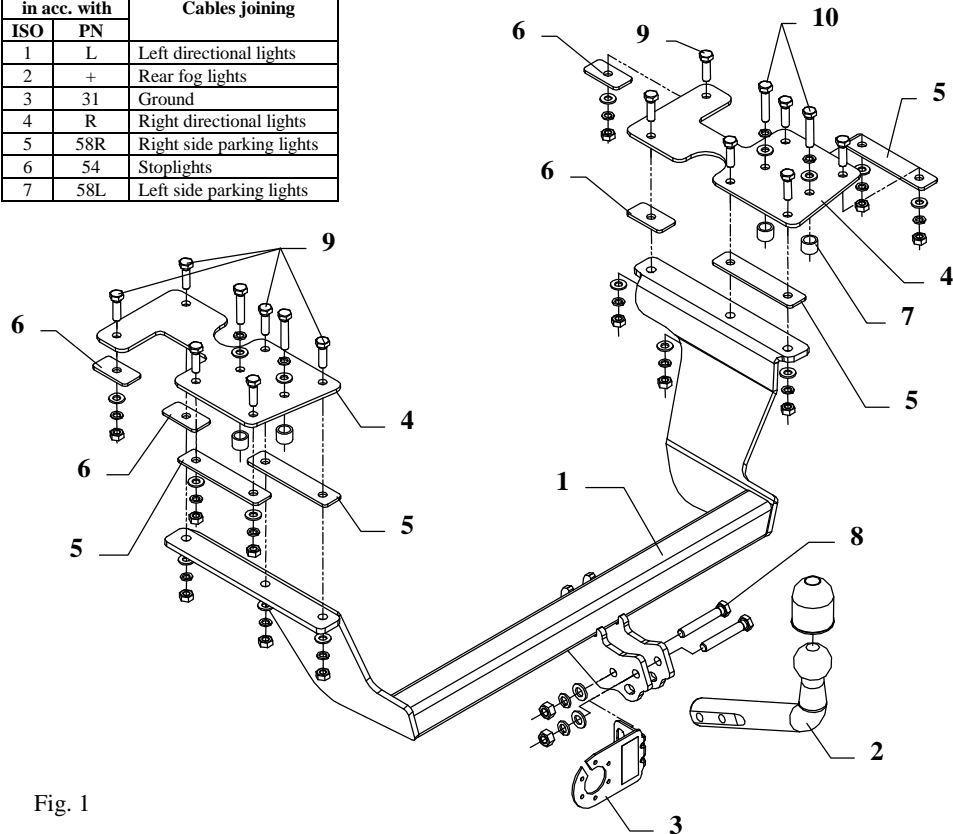
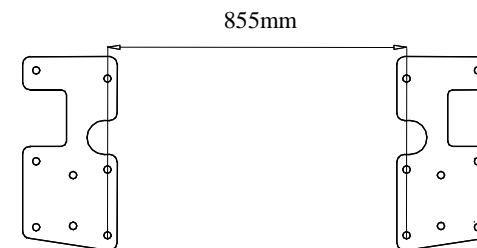

Fig. 1
Fig. 2
- Apply fish-plates (pos. 4) such way, so holes, in which enter bolts M10x1,25x50mm (pos. 10) overlapped on holes, which were previously unscrewing bolts fastening arms of the bumper. Then marked the contour of fish-plates and after this put aside fish-plates – inside contours remove the anti-noise layer. Put fish-plates (pos. 4) in this way, so holes for bolts M10x1,25x50mm (pos. 10) agree with holes after disassembly of towing hitch brackets. Mark contour of the fish—plates, next take them of and remove protective layer from inside of contour.
- On holes fastening arms of the bumper put distance sleeves L=16mm (pos. 7). Then apply again fish-plates (pos. 4) and fix with bolts M10x1,25x50mm (pos. 10) as showed on the fig. 1.
- Attention! Make sure whether fish-plates lay as one showed on the fig. 2.**
- By remaining holes of fish-plates (pos. 4) drill through holes  $\phi 10,5$ mm. Then into all holes insert bolts M10x35mm (pos. 9).
- From the bottom of the car on protruding bolts put distance washers (pos. 5 and 6) and the main bar of the towing hitch (pos. 1) and fix as showed on the fig. 1. .
- To so prepared towing hitch fix tow-ball (pos. 2) and socket plate (pos. 3) by bolts M12x75mm (pos. 8) from accessories.